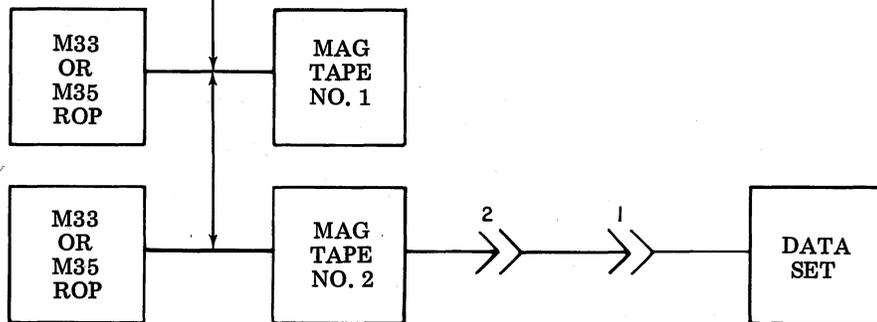

Fig. 12—Magnetic Tape and Model 33 or Model 35 RO Printer
6.05 Modes one and three in Fig. 11 permit transfer of data from the KD to the MT locally when the PRINT LOCAL key is operated. When the PRINT ON LINE key is operated, the MT will copy any data exchanged between the KD, DS, or an auxiliary terminal. The MT required for this arrangement and also the configuration in Fig. 12 shows how to obtain printed copy on Model 33 or Model 35 RO from the MT terminal.